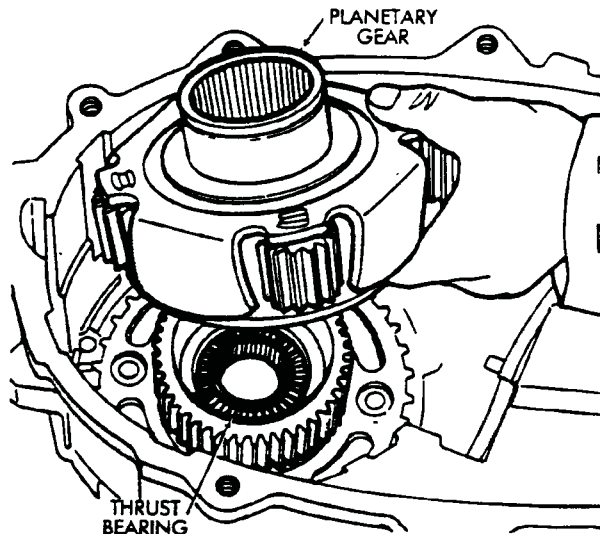

Fig. 4-21 Remove Planetary Gear and Thrust Washer
28. Remove the planetary gear (Fig. 4-21).
29. Remove mainshaft thrust bearing from input gear (Fig. 4-21).